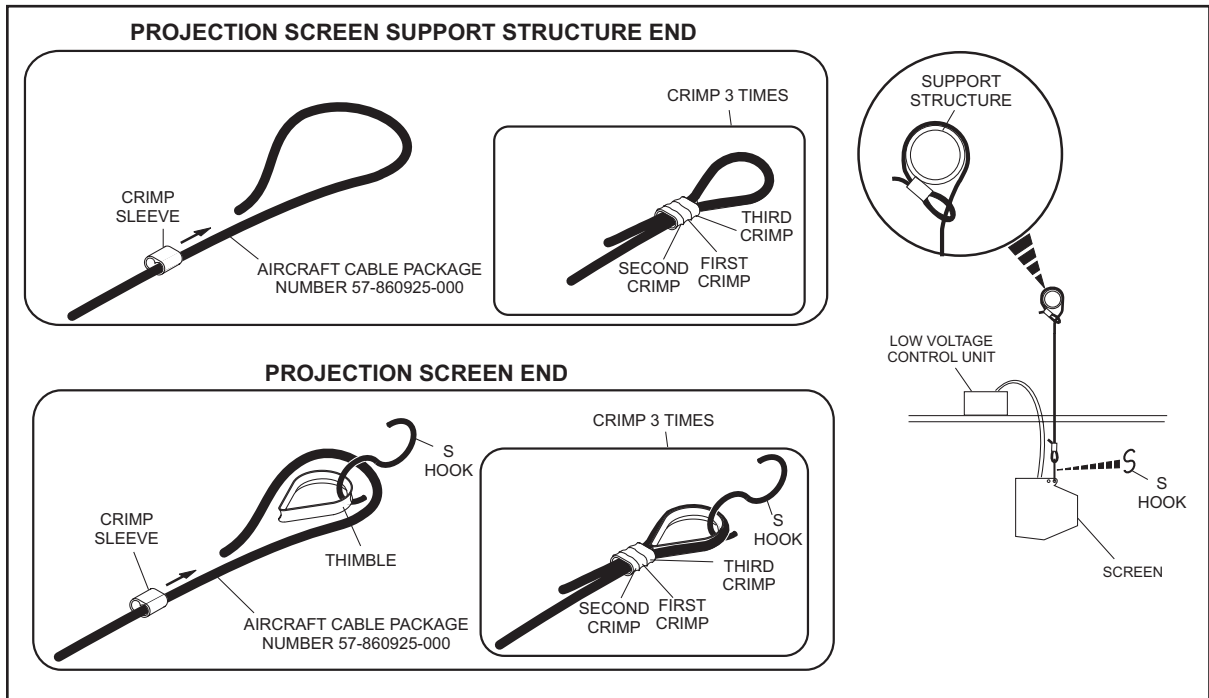

Figure 62
3. Form a loop on one end of the cable and install crimp sleeve (part of package 57-860925-000). Repeat until all air craft cables are crimped on one end. Refer to *Figure 62*.
4. Wrap crimped cable end around structure at marked locations and insert straight end thru the loop of cable. Refer to *Figure 62*.
6. Loop end of cable and install thimble and crimp (part of package number 57-860925-000) onto cable. Install "S" hook supplied with projection screen to cable and to projection screen. Refer *Figure 62*.